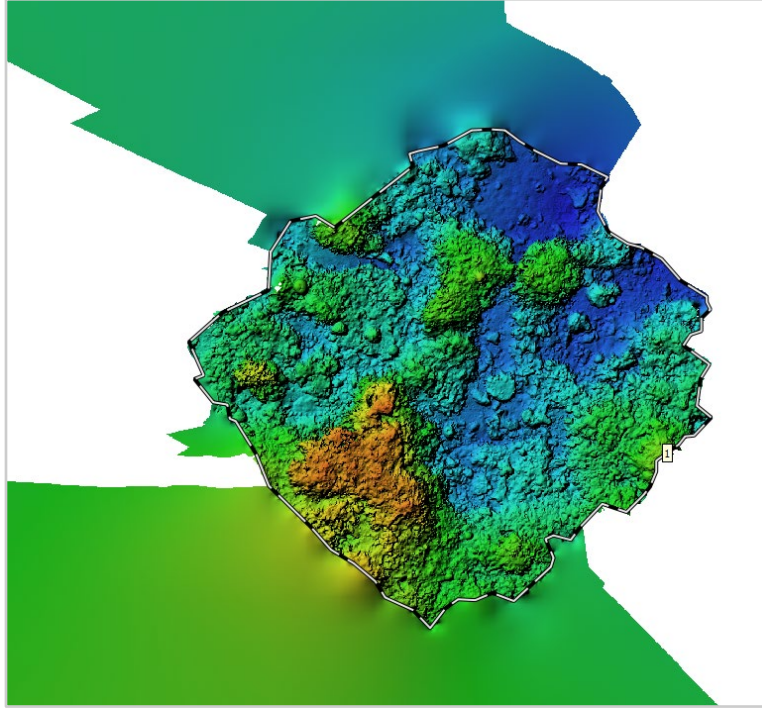

Figure 36. Example of poorly generated DEM with drawn polygon and set boundary.
- B. From the drop-down menu, select Draw Polygon. Continuously draw around the DEM model, making sure to exclude the smoothed portions that should be removed (Figure 36). Once the polygon has been drawn and the polygon lines connect at the starting point, a window named Shape Properties will appear. Click OK to save the polygon. Right-click on the polygon line, and from the context menu, select Set Boundary Type, then Outer Boundary. This sets the boundary to include anything inside the polygon when exporting the DEM or creating the orthomosaic.